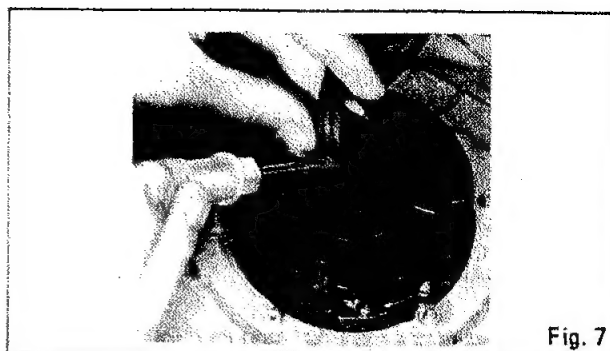

Fig. 7
18. Remove phono cord clamber as shown in Fig. 7.